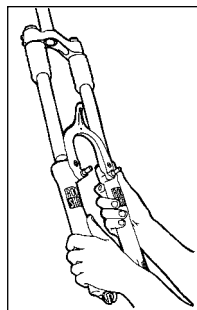

Fig. 4
- Slide off one-piece lower tube assembly (see Fig. 4). Remove fork boots.